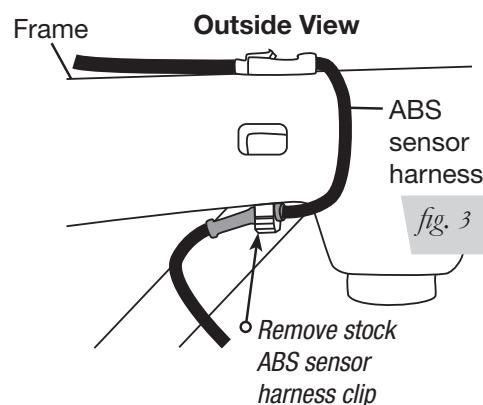

fig. 3
1. If equipped, pry the stock anti-lock brake system (ABS) sensor harness clamp out from the bottom of the frame and remove the stock sensor harness clip from the ABS sensor harness (Fig. 3).
3. Disconnect the ABS sensor at the connector on top of the frame. Move the ABS sensor harness from the outside of the frame to the inside of the frame and reconnect the ABS sensor back into the wiring harness (Figs. 3 & 4).